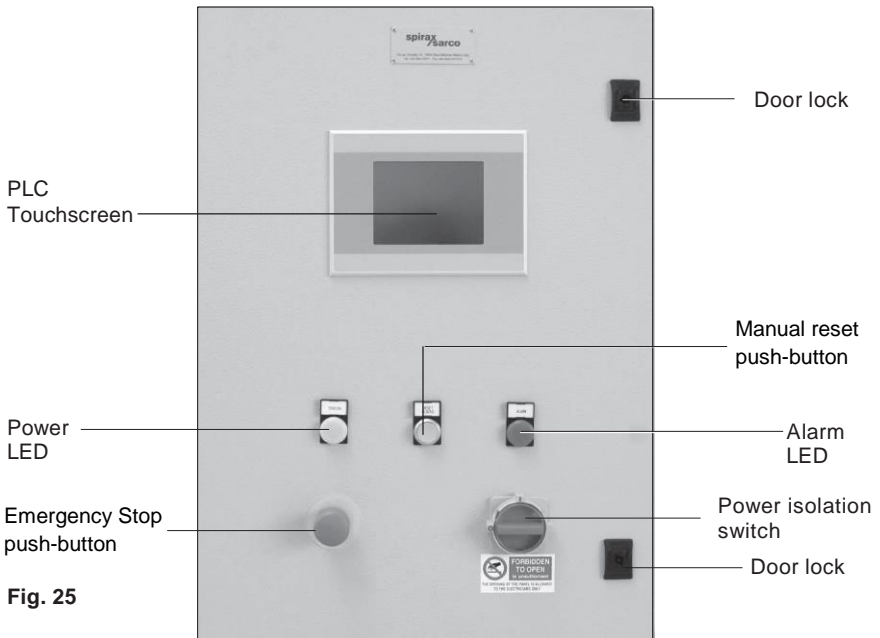

Fig. 25
5.4.13 Control cabinet - Figure 25